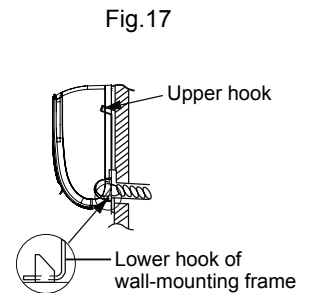

Fig.17
- (5) wall.(As show in Fig.17)